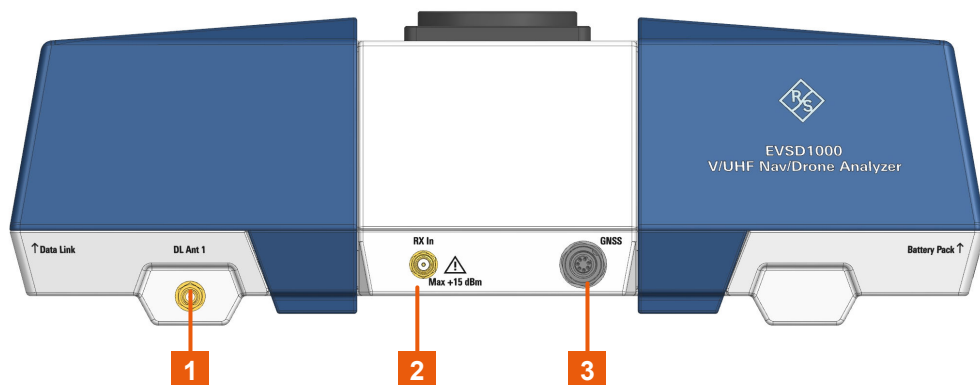

Figure 1-9: R&S EVSD1000 - Left panel view
3. Using the provided GNSS cable, connect the GNSS receiver to the "GNSS" connector on the left panel of the R&S EVSD1000 (see Figure 1-9).